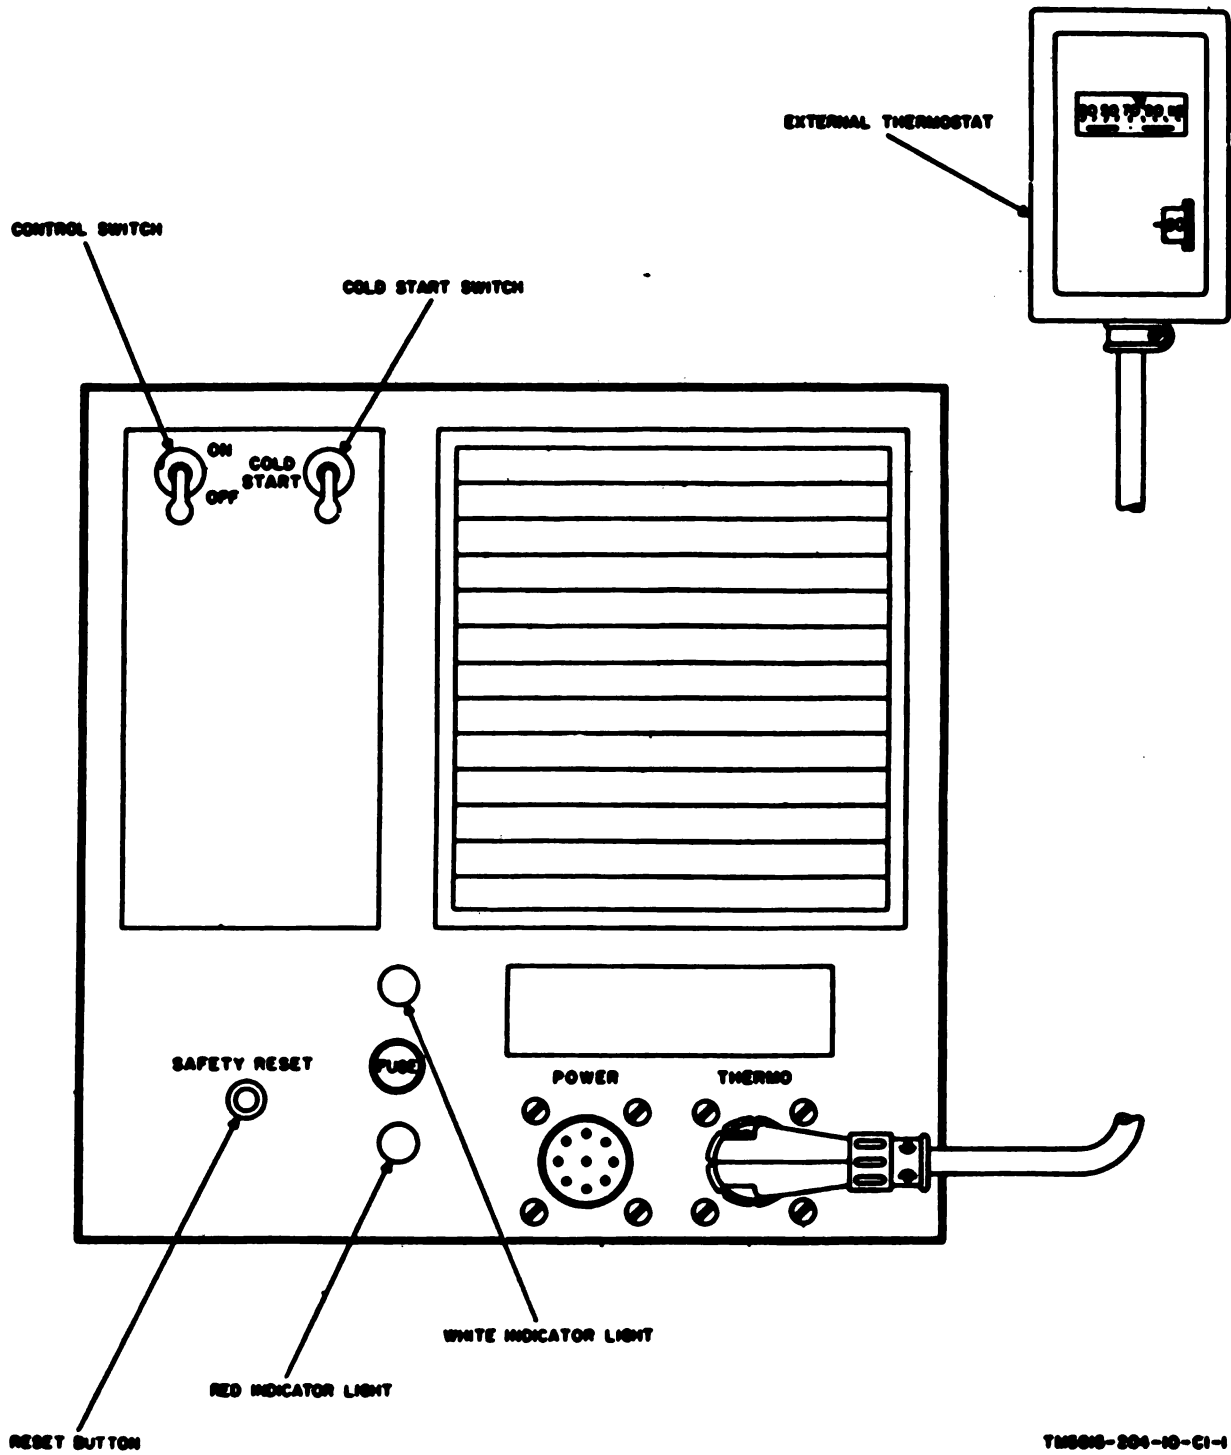

Figure 12. Heater controls, AN/GRC-46B.
a. The following table lists the controls of the heater (fig. 12) in the AN/GRC-46B and indicates their function: